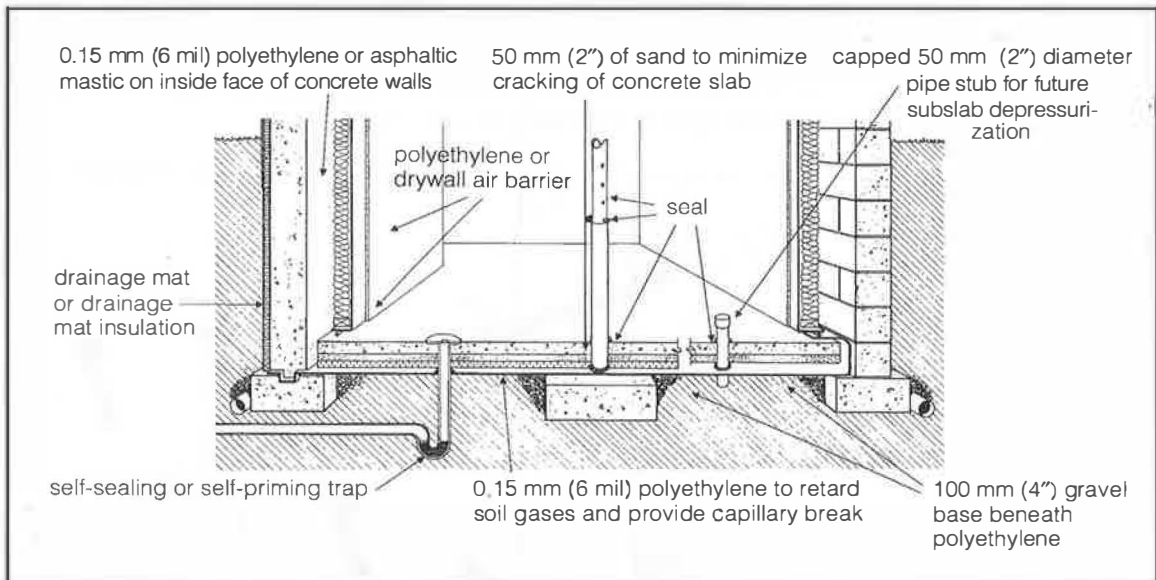

Fig. 2. Controlling entry of soil gases into a basement foundation
- Eliminate the entry of soil gases by sealing the foundation (*fig. 2*).